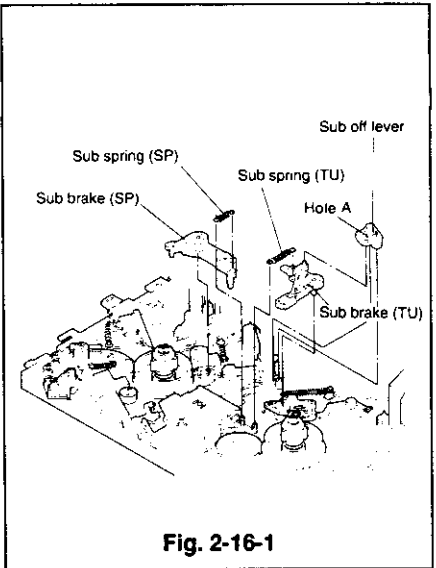
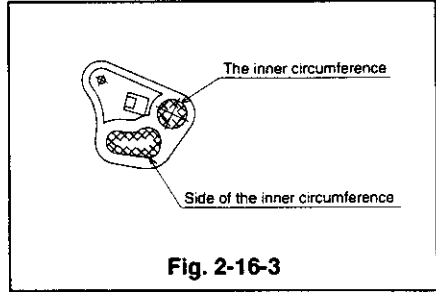

Fig. 2-16-1
Fig. 2-16-3
- ④ Remove the sub spring (TU). (Refer to Fig. 2-16-1.)
- ① Apply the grease (PG-641)(859D055O30) to the area shown in Fig. 2-16-3.
- ② Install the sub brake (TU) on the main plate.
- ③ Install the sub off lever so that the hole A aligns with the boss of the sub brake (TU) as shown in Fig. 2-16-1.
- ④ Install the sub spring (TU).
- ⑤ Install the sub brake (SP) and the sub spring (SP). (Refer to Para. 2-14 for the installation method.)
- ⑥ Install the cassette housing. (Refer to Para. 2-1 for the installation method.)